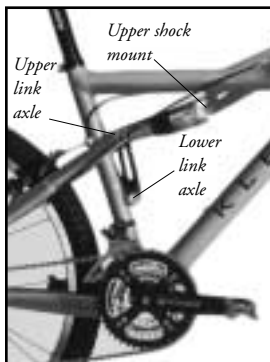

Fig. 23
1. Remove the upper link bolt and axle (Fig. 23). Be careful not to let the shock swing down and hit a frame tube.